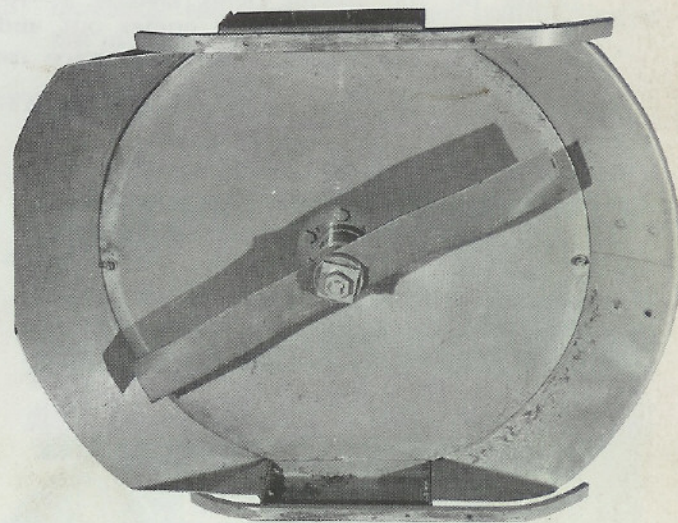

fig. 5
6. Single Blade Installation: Install three loose collars, (item 3), blade (item 4), the remaining loose collars, spindle nut washer (item 2) and nut (item 1). Torque nut to 100 ft. lbs. (135.6 Nm). See fig. 5.